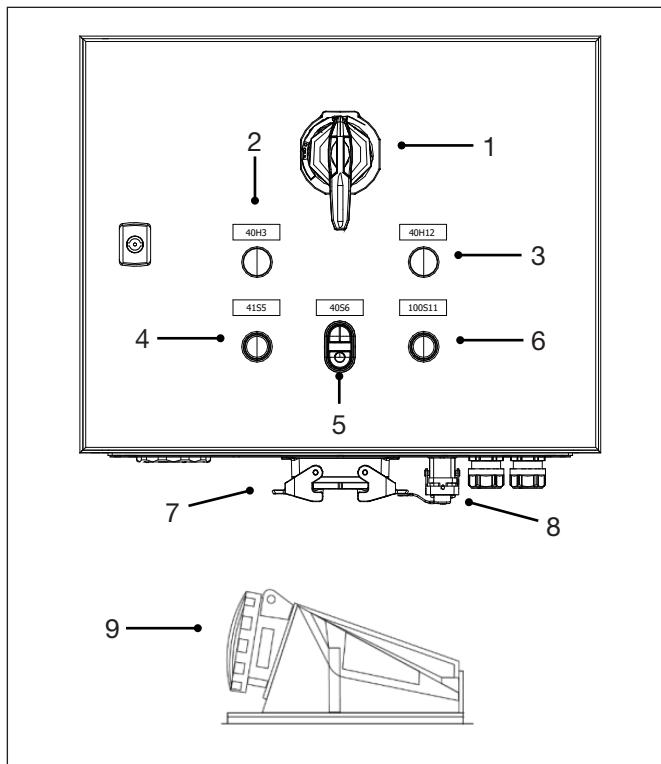

Figure 2: Electric panel and Electric plug
Turn the motor on using the following steps (see Figure 2 and Figure 4):
4. Turn the main switch (Figure 2, No 1) to the "On" position located on the electrical cabinet, ensure the Power On Led (Figure 2, No 2) activates.
6. Press the reset button to reset the security system after the emergency button has been de-activated (Figure 2, No 4)
7. Press the motor start button for 3 seconds (Figure 2, No 5)
5. Press the motor start button for 3 seconds (Figure 2, No 3).
With the motor switched off (see Figure 2 and Figure 4):
2. Push decompress button on the electric cabinet (Figure 2, No 6.)